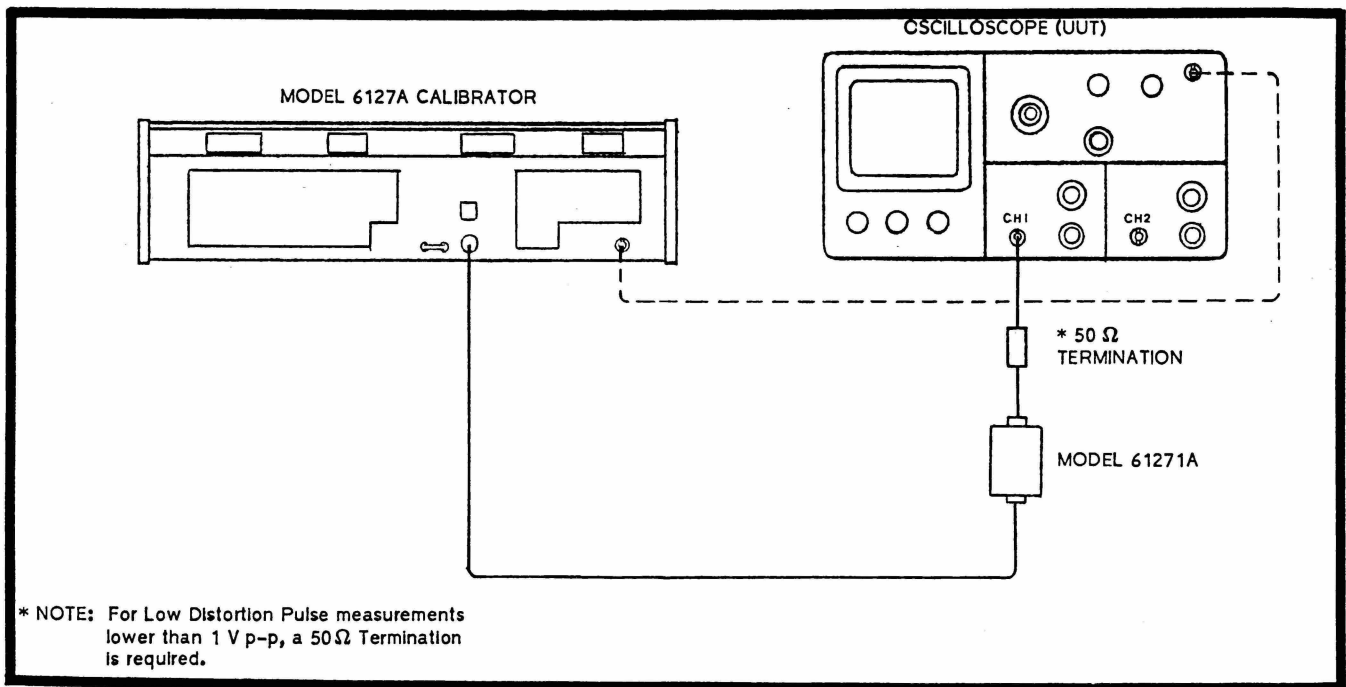

Figure 3-7. Time/Div, Fast Rise Pulse & Low Distortion Pulse Modes, Equipment Set-Up
- a. Connect the equipment as shown in Figure 3-7.
a. Connect the equipment as shown in Figure 3-7. (Refer also to Table 3-7.)